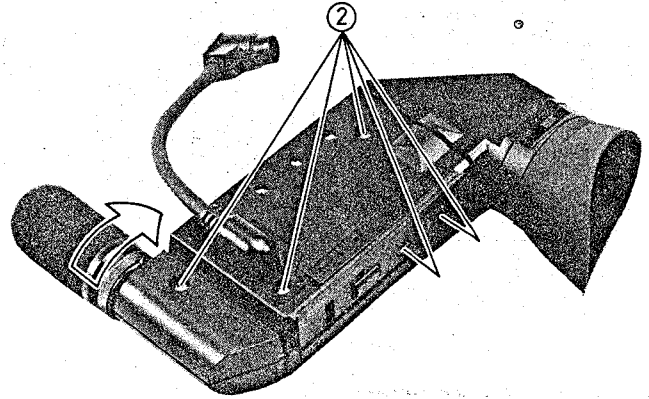

Fig. 2-138 Bottom Cover Removal
Bottom Cover Removal (Fig. 2-138)
1. Turn the microphone ring in the direction of the arrow. (See Fig. 2-138)
2. Remove five (5) screws holding the bottom cover.
1. Remove the bottom cover. (See Fig. 2-138)